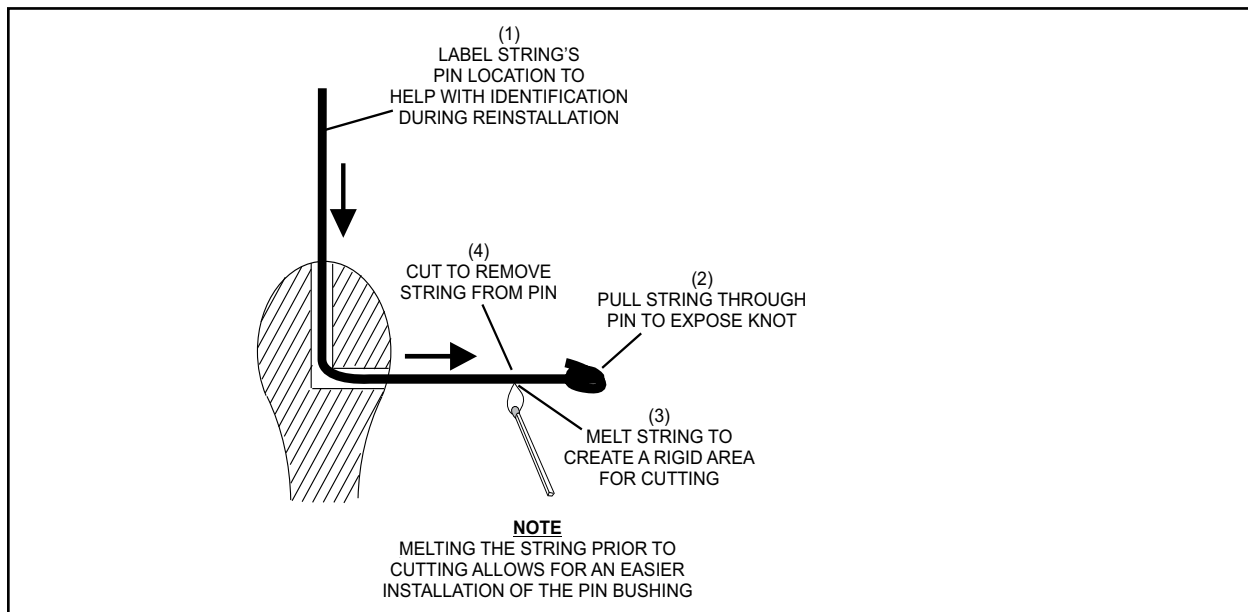

Figure 1. Remove Pins From Strings
3. Remove the pins from their strings. Refer to *Figure 1*.